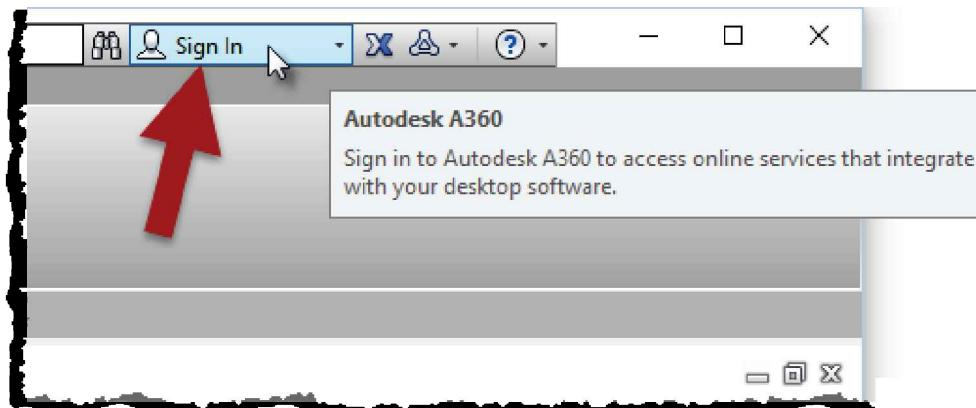

FIGURE 1-7.6 Signing in to Autodesk A360
3. Click the **Sign In** option in the upper-right corner of the application window (Figure 1-7.6).